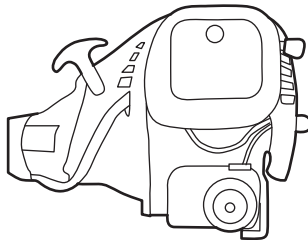

Fig. 16c
- c). If the engine is cold, move the choke lever (A3) to the “CLOSE” position  and depress the primer (A4) with 6 times until fuel is visible. (See Fig. 16c)